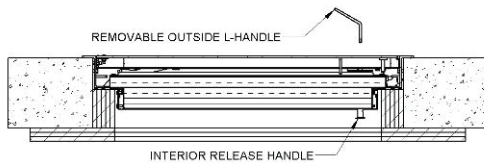

FIGURE 2
- First, disengage the spring by loosening the two hex head screws in the spring keeper. (Figure 2)